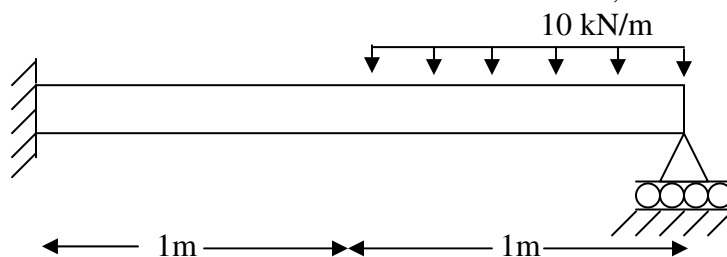

Figure: 3
5. Consider a cantilever beam with uniform distributed load as shown in Figure: 3. Estimate the deflection at the end of the beam. $E = 200 \text{ GPa}$; $A = 625 \text{ mm}^2$, $I = 1500 \text{ mm}^4$. [16]